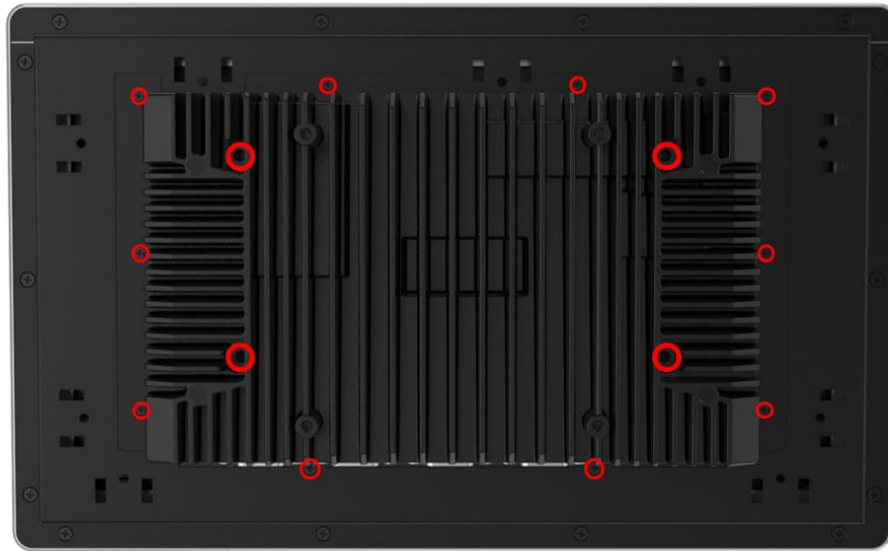

Figure 3-1: Back Cover Retention Screws
Step 1: Remove the retention screws from the back cover (**Figure 3-1**).